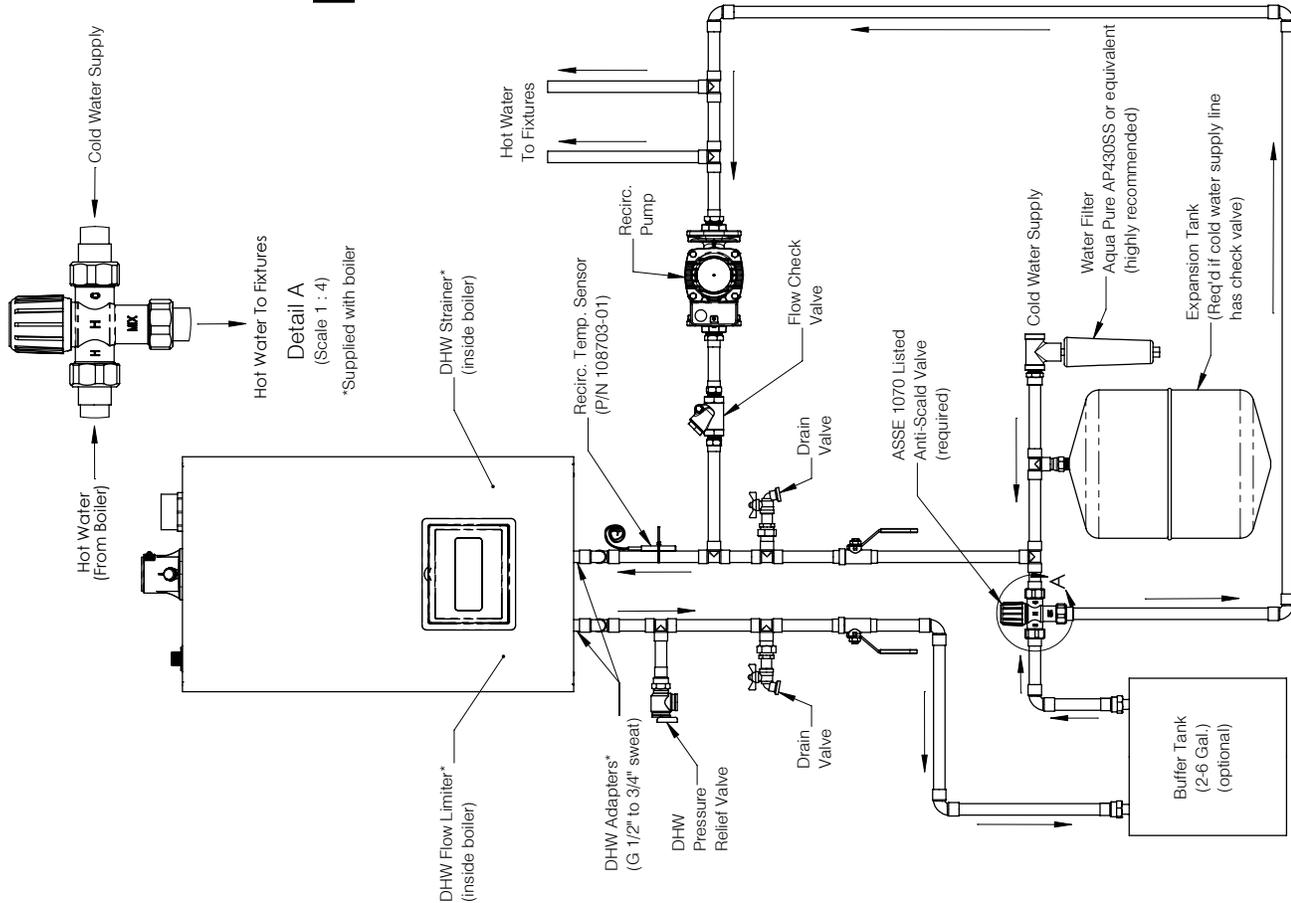

Figure 11-3: DHW Piping with Recirculation
When recirculation line is installed as shown in Figure 11-3, a small (2-6 gal) potable water storage tank may be installed as shown. Reduces burner cycling during very small DHW demands and also helps minimize temperature fluctuations. An unpowered storage electric water heater is ideal for this application.
- E. Recirculation (Header) Temperature Sensor - When optional sensor is installed and Recirculation (Comfort) Mode is enabled, boiler will attempt to maintain target domestic hot water recirculation temperature in recirculation piping. Use only Honeywell 32003971-003 (P/N 108703-01) sensor. Locate sensor as shown in Figure 11-3. Wire sensor using a 2 conductor, UL Type CM, AWM Style 2092, 300 Volt 60°C shielded cable. Connect one end of shielding on this cable to ground. See Table 16-11 for information on enabling recirculation sensor.